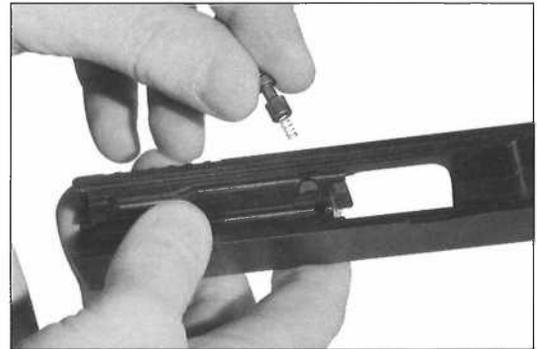

Fig. 42
- Ensure the firing pin safety and spring are connected and replace the safety (spring down) into its receptacle. Press down on the safety to check proper spring function. Firing pin safety must be under tension. (Fig. 42)